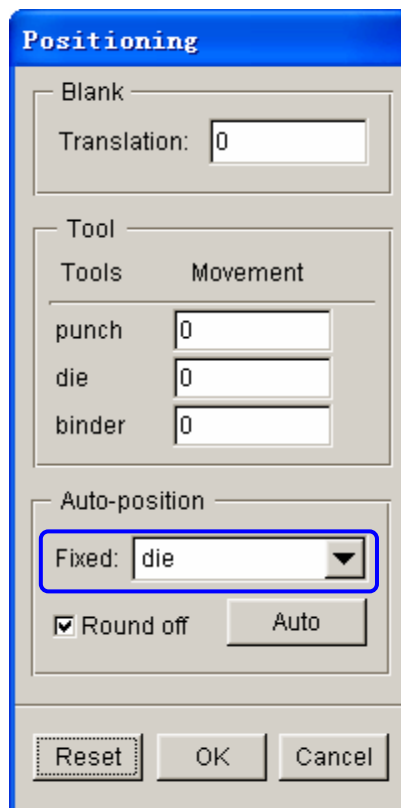

Figure 7.37 Before tool positioning
1. Click **Positioning...** button located at the lower right corner of the tool definition interface to display the POSITIONING dialog box illustrated in Figure 7.37. Alternatively, you can select **Tools→Positioning...** from the menu bar.